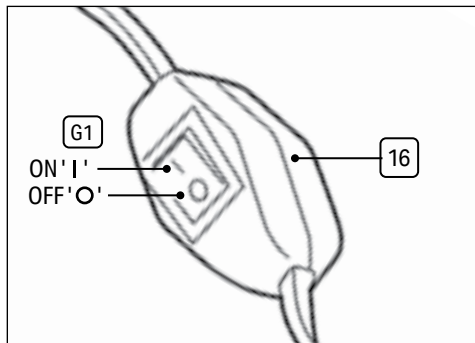

Fig. 17
8.2 Using the Sprayer (Fig.17)